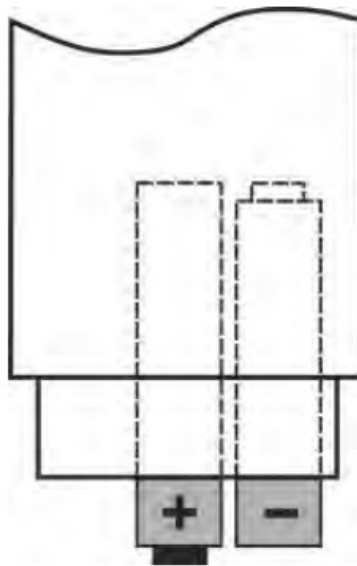

Fig. 11: Battery replacement
3. Insert new batteries of the same type (see § 7.2) respecting the indicated polarity (see Fig. 11)